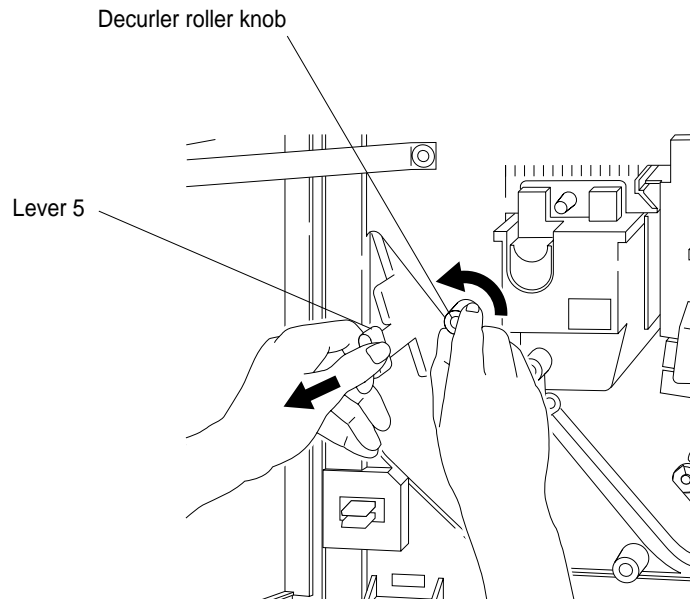

Figure 3-57 Freeing paper in Reversing Unit jam
2. Locate Lever 5 and push it downward and away from the fuser unit area, as shown in Figure 3-57.